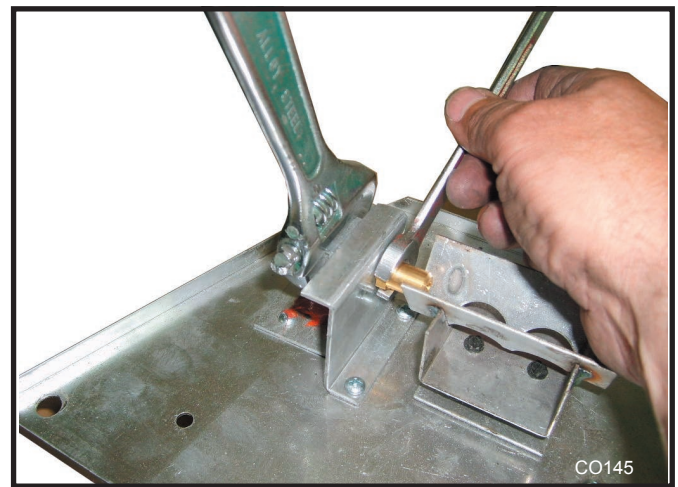

**Fig. 71** Remove three (3) nuts securing ember bed in place.
1. Remove three (3) 3/8" nuts on bottom side of burner pan. (Fig. 71)
2. Thread and tighten 3/8" nuts back onto pem studs on underneath side of control panel, reversing Step 1 shown in Figure 71.